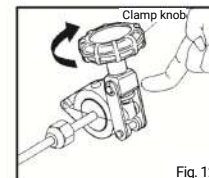

Fig. 12
- 4** Check that the tube is placed correctly, and then clamp the tube. (Fig. 12)